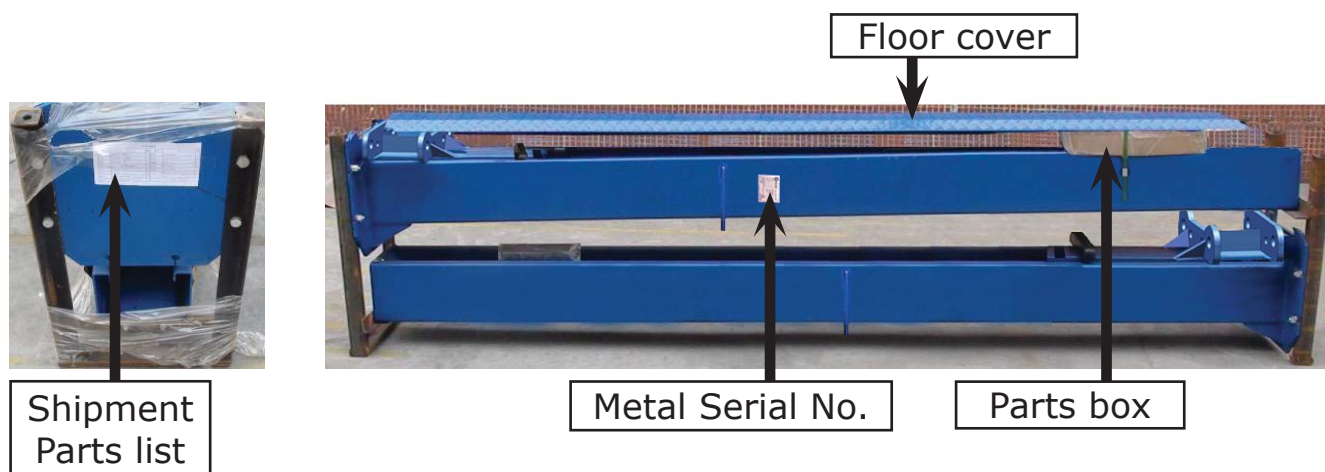

Fig. 7
2. Move aside the lift with fork lift or hoist, open the outer packing, take out the parts from the column and check the parts with shipment list (See Fig. 7).